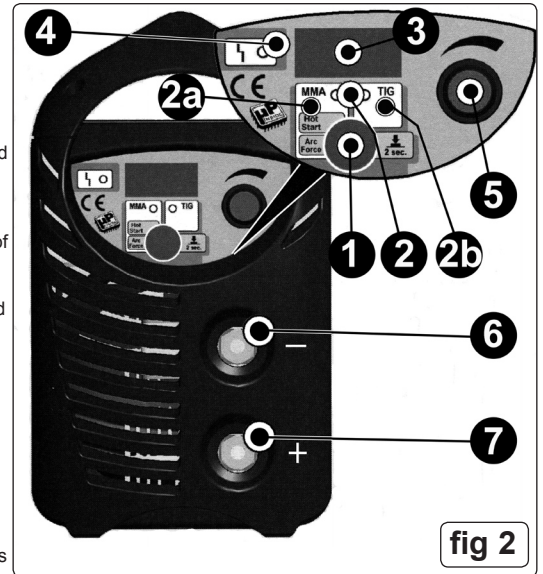

fig 2
3.1 FRONT PANEL LAYOUT (refer to Figure 2).
“TIG” TORCH CABLE. Dinse plug at the end of the torch cable will be connected to the **negative socket (-)** on the front panel (see fig.2 item 6).
WORK CLAMP CABLE. Dinse plug at the end of the clamp cable will be connected to the **positive socket (+)** on front panel (see fig.2 item 7).
4.4.1 ELECTRODE HOLDER. Plug at the end of electrode cable **will normally (*)** be connected to the **positive socket (+)** on the front panel (see fig.2 item 7).
4.4.2 WORK CLAMP CABLE. Plug at the end of the clamp cable **will normally (*)** be connected to the **negative socket (-)** on the front panel (see fig.2 item 6).